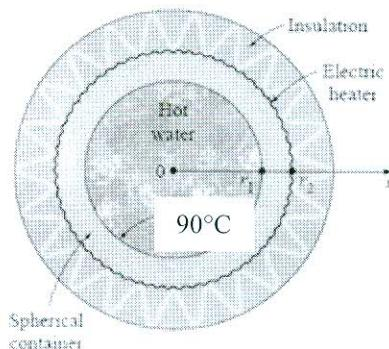

Figure 6: Water pipe with strip heater
4. [a] In a food processing facility, a spherical container of inner radius,  $r_1=20$  cm, outer radius  $r_2 = 40$  cm, and thermal conductivity,  $k = 2 \text{ W.m}^{-1}\text{.}^{\circ}\text{C}^{-1}$  is used to store hot water and to keep it at  $90^{\circ}\text{C}$  at all time. To accomplish this, the outer surface of the container is wrapped with a 400 W electric strip heater and then insulated like in Figure 6. The temperature of the inner surface of the container is observed to be nearly  $90^{\circ}\text{C}$  at all time. Assuming 5% of the heat generated in the heater is lost through the insulation, calculate the following heat transport properties: